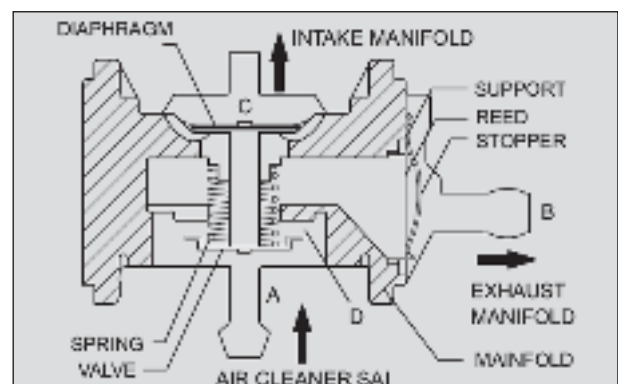

Fig. 4.35
- Clean air from air cleaner assembly is passed through the inlet port (A). the outlet (B) which has a reed valve connected to exhaust manifold. Another line from pipe intake complete (D) is connected to chamber (C) . the port(D) has a small orifice than the other parts. The fresh and filtered air passes from port (A) to port (B).
- Whenever there is a suction in chamber (C) the diaphragm is pulled up, closing the valve at (D). The airflow from port (A) to (B) is closed. Depending upon the vacuum created in the intake manifold, the amount of airflow from port (A) to (B) is controlled. (Fig. 4.35)